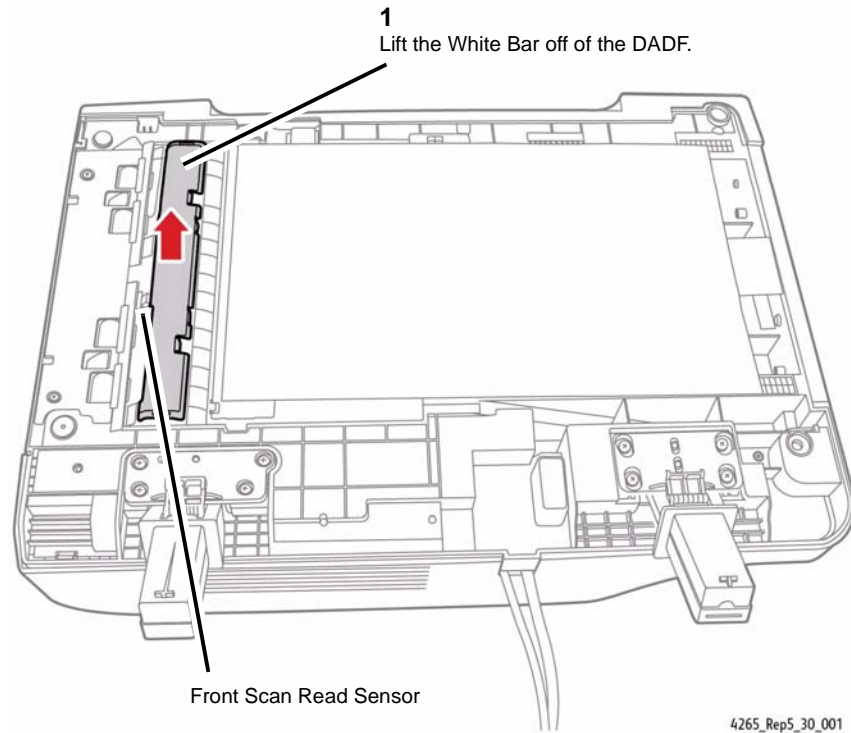

Figure 1 Removing the White Bar
3. Remove the White Bar from the underside of the DADF (Figure 1).